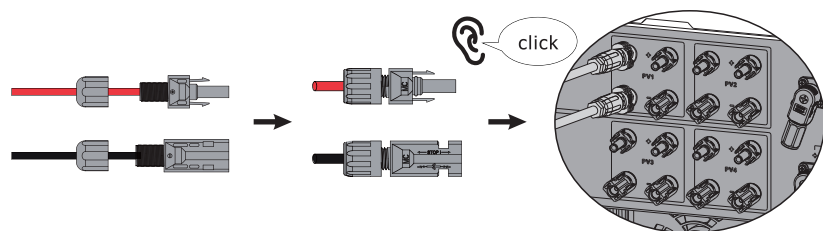

Figure 4.1-6 The PV plug is connected to the inverter
Step4. Screw the cap on and plug it onto inverter side. There will be a click sound if connectors are inserted correctly into PV plugs,as shown in Figure 4.1-6.